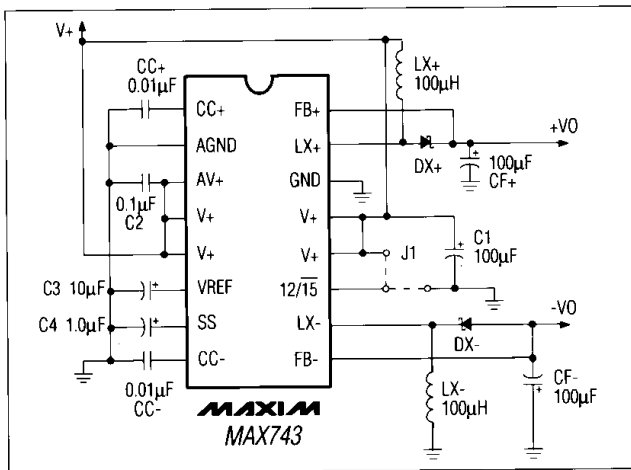
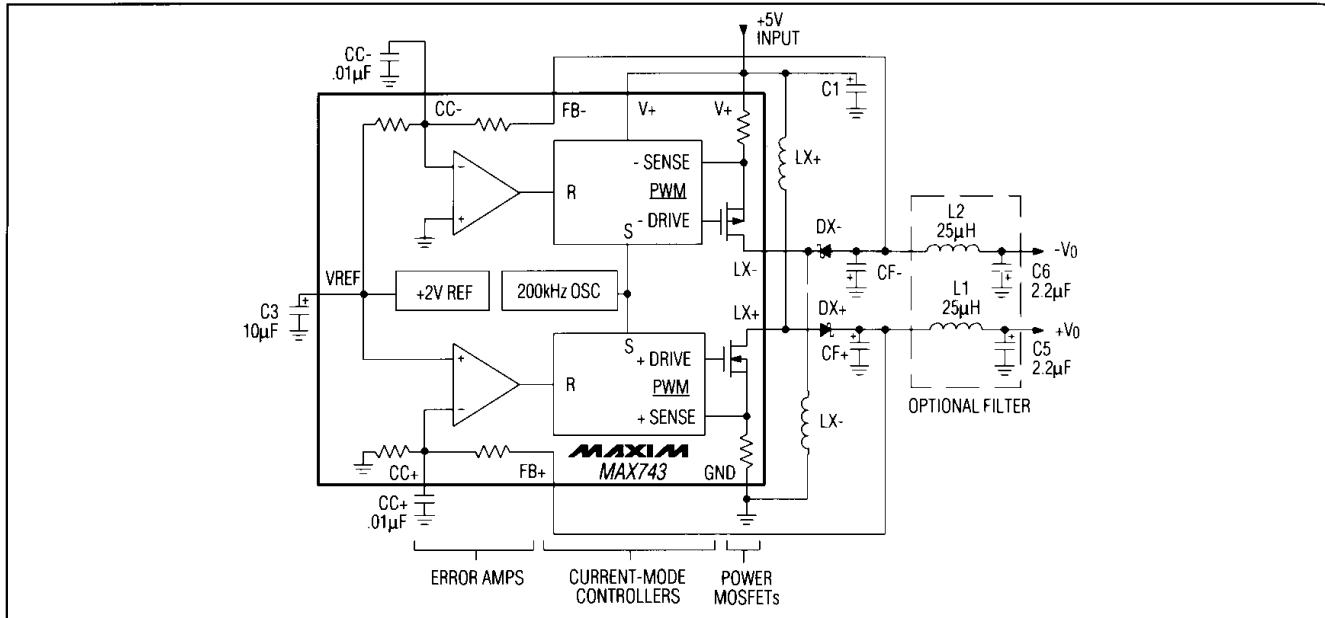
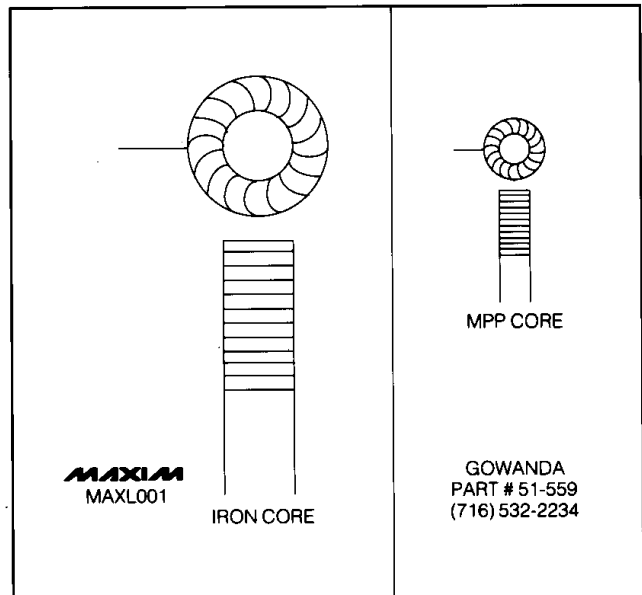
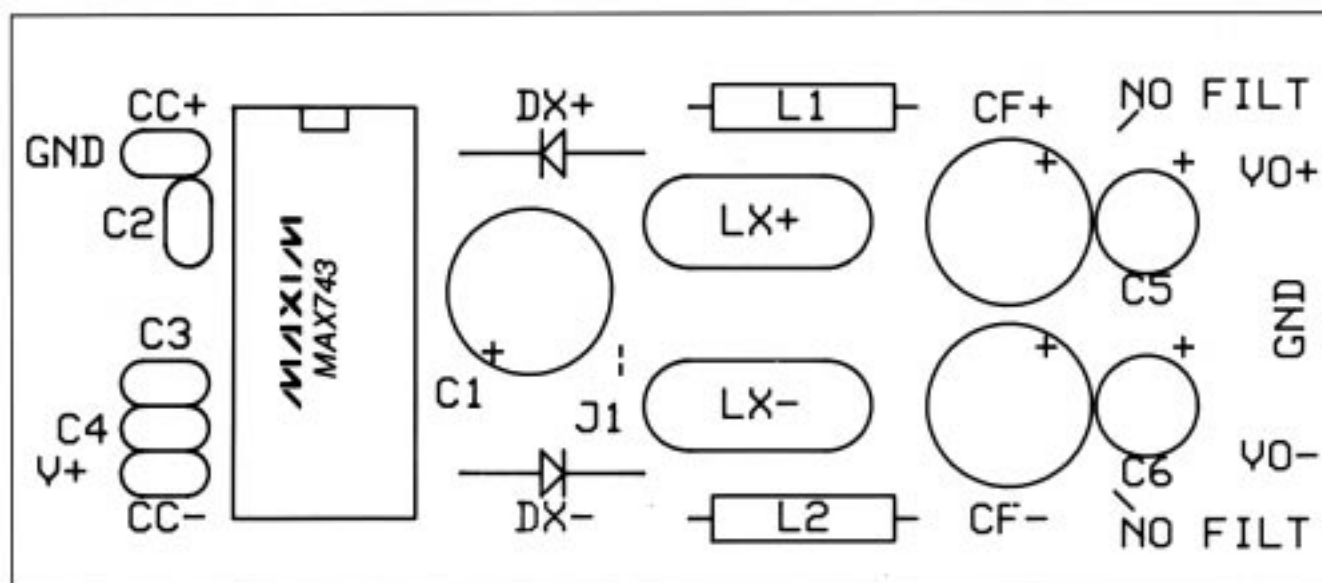

Figure 1. Basic Application Circuit
Figure 4. Functional Diagram with Optional Pi Filter
Figure 5. 100 μ H Low-EMI Inductors for 3W Supplies (Actual Sizes) (See Table 1)
Figure 7. Component Placement Diagram for PC Layout of Figure 6
(Circuit of Figure 1, $+4.5V < V+ < +5.5V$, Note 1.)
(Circuit of Figure 1, $V+ = +5.0V$, $12/15$ pin = $0V$, $I_{LOAD} = 0$, $T_A = T_{MIN}$ to T_{MAX} , unless otherwise noted.)
The circuit in Figure 1 has been tested at all line, load, output current, and temperature limits. Refer to the Electrical Characteristics table for guaranteed in-circuit specifications. Successful use of this circuit requires no component calculations.
The MAX743EVKIT Evaluation Kit demonstrates the output capabilities and noise performance of the MAX743 standard application circuit (Figure 1). The kit includes main switching components identical to those found in the high-volume production kit described on page 11 (MAX743CPEKIT). With a few quick modifications, the circuit can also serve as a low-noise test bed to evaluate other components, such as the miniature MPP toroid inductor of Figure 5. The kit includes optional Pi filters shown in the Functional Diagram (Figure 4), which reduce output noise to less than 2mVp-p.
1. Build Circuit. Assemble the PC board according to the component placement diagram of Figure 7 and the schematic of Figure 4. 3 resistors will be left over (and used for testing). The extra holes near LX and CF are options for nonstandard component sizes. Do not install jumper, J1, or C4.